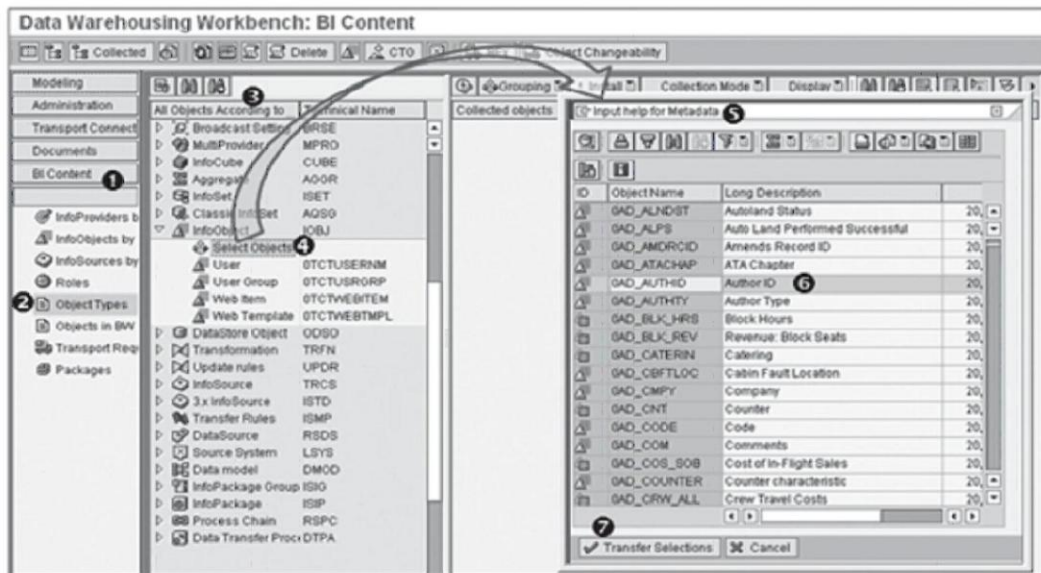

Figure 2.28 Selecting InfoObject for Activation
Now that the options are set, we can select InfoObject OAD_AUTHID. Expand the InfoObject tree, and double-click on Select Objects, as shown in ❶ of Figure 2.28. This results in a pop-up box, Input Help for Metadata, as shown in ❷. This pop-up box lists all of the InfoObjects available in the system, both active and inactive. Find the InfoObject OAD_AUTHID by using the scroll bar or Find icon.